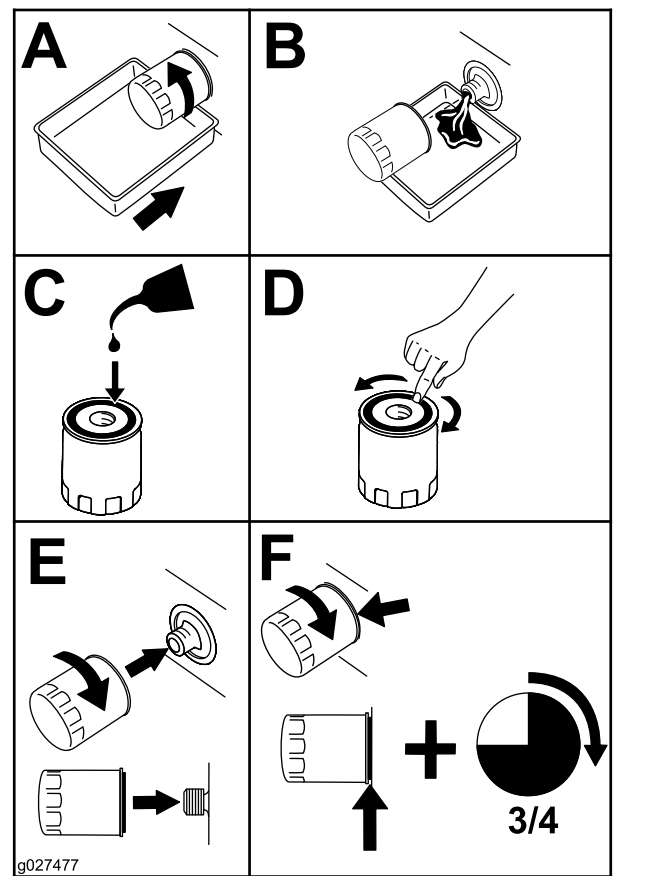

Figure 39
5. Replace the engine-oil filter as shown in Figure 39.